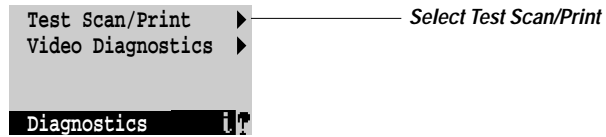

Figure 6-12 Test Scan/Print option
4. *At the screen shown in Figure 6-12, select Test Scan/Print.*